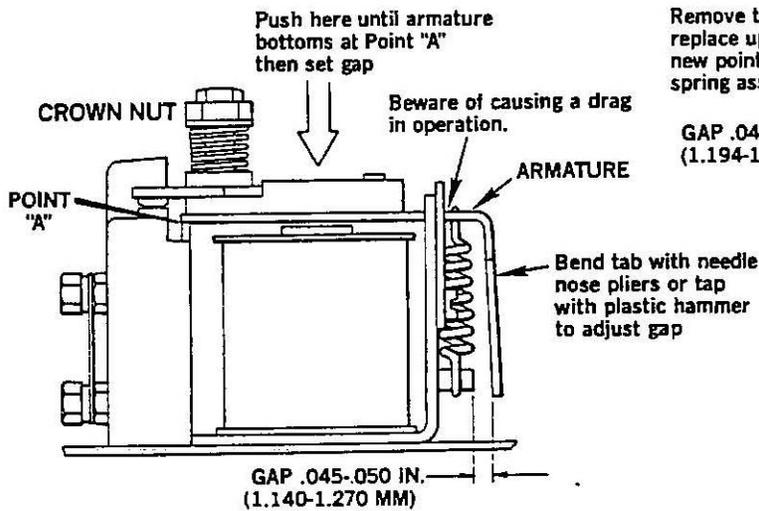

Figure 6
Procedure to adjust and set point gap. See Figures 6 & 7.
**STEP 4** Press down on upper points until armature bottoms on Point "A", see Fig. 6, then set gap by bending tab on armature with needle nose pliers or slightly tapping in tab with plastic hammer as required.
(See Illustration Figure 6 for details)